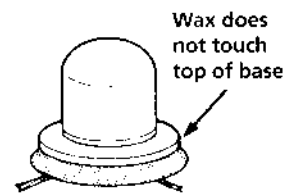

Fig. 7
- Wax a strip of 14-gauge sprue wax around the base of the attachment (Fig. 7). Do not get any wax on the top of the attachment base. When boiled out the wax will create a channel for even heating. Invest in soldering investment.